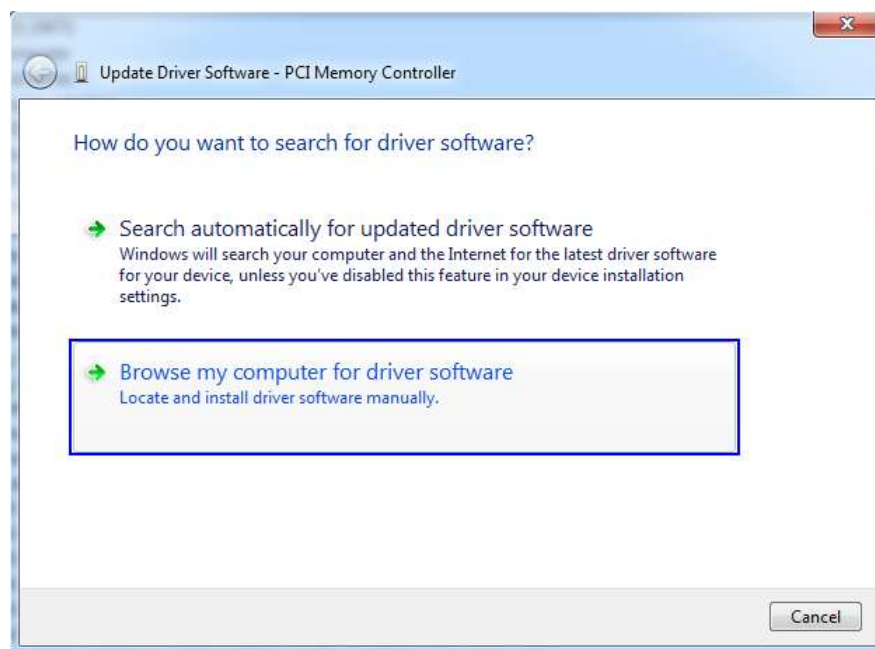

Figure 2.3. Driver Upgrade Dialog (1)
3. From the pop-up dialog, select “Browse my computer for driver software” (Figure 2.3).